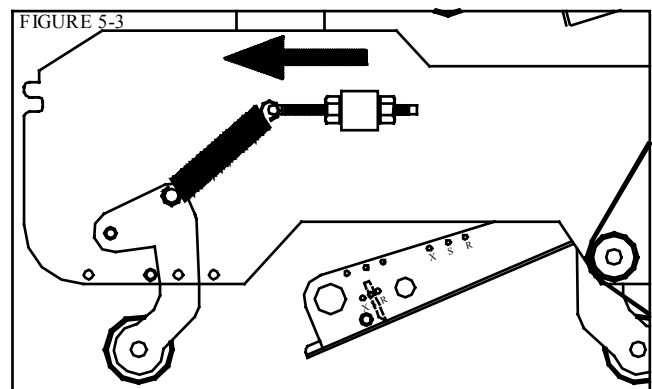

FIGURE 5-3
3. The pressure may also need to be decreased on the tape application wipe down rollers. To do this, loosen the lock nuts on the spring tension-adjusting rod. Increase the length of the adjusting rod which in turn reduces the tension on the spring. [Fig 5-3]